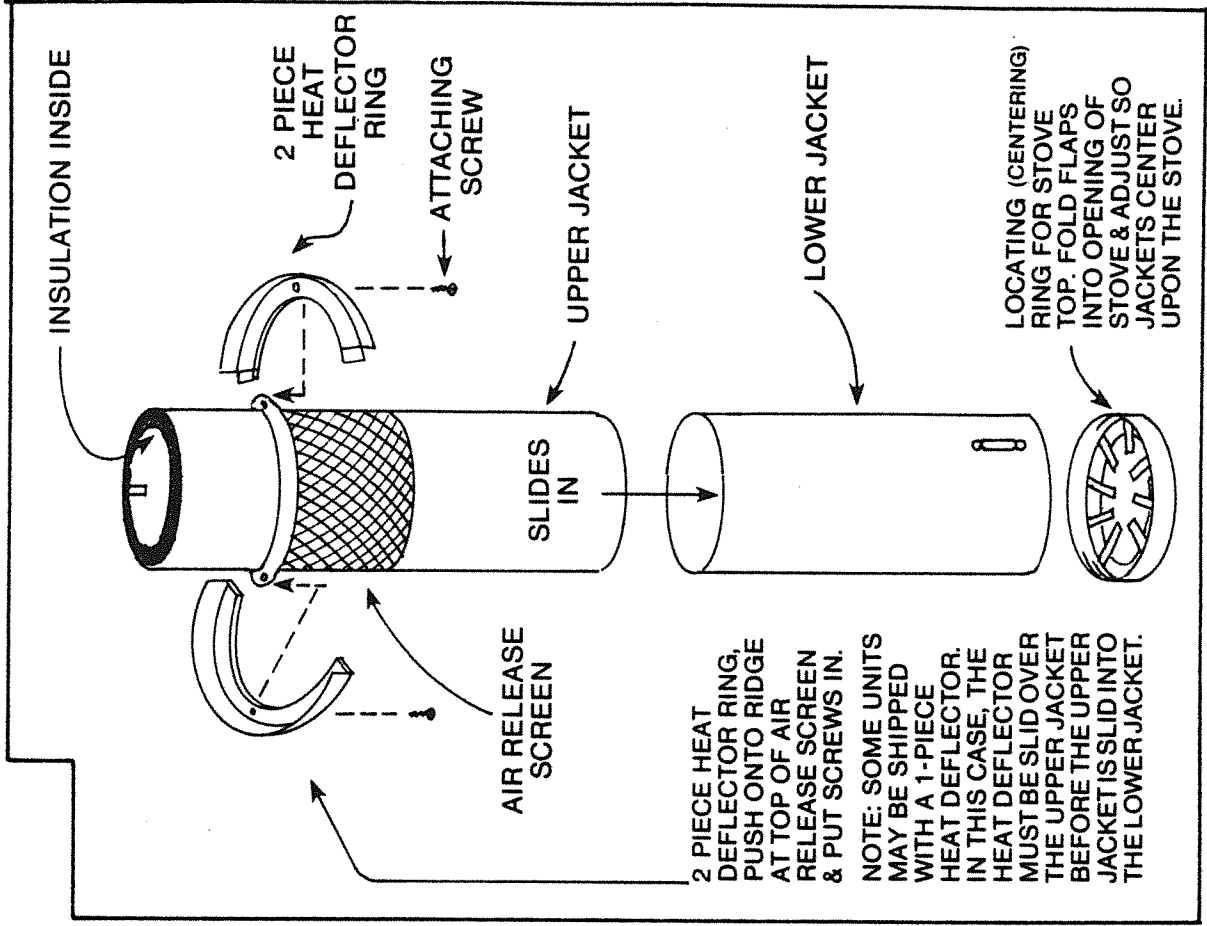

FIGURE 8
2. Insert the first section of flue pipe (the one with the crimped end) into the lower section of the decorative cover (the decorative cover option is shown in Figure 8). NOTE: If the decorative cover option is not used, you will insert the Starter pipe (MSI-5) into the Decorative Basket (MSI-20). Note that the Starter pipe and Decorative Basket are not illustrated.
To install the decorative cover option, refer to Figure 8 (previous page) and perform the following steps: